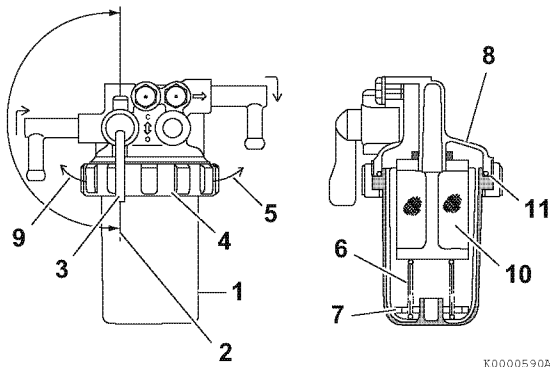

Figure 5-4
1. Position an approved container under the fuel filter/water separator (**Figure 5-4, (1)**) to collect the contaminants.
2. Close (**Figure 5-4, (2)**) the fuel cock (**Figure 5-4, (3)**).
3. Turn the retaining ring (**Figure 5-4, (4)**) to the left (**Figure 5-4, (9)**).
4. Carefully remove the cup (**Figure 5-4, (1)**). Remove the retaining spring (**Figure 5-4, (6)**) and float (**Figure 5-4, (7)**) from the cup. Pour the fuel into an approved container and dispose properly. Hold the bottom of the cup with a shop towel to prevent the fuel from dripping. Wipe up any spills immediately.
6. Inspect the condition of the mesh filter (**Figure 5-4, (10)**). Clean the mesh filter if necessary.
7. Inspect the condition of the O-ring (**Figure 5-4, (11)**). Replace the O-ring if necessary.
8. Put the float (**Figure 5-4, (7)**) and retaining spring (**Figure 5-4, (6)**) inside the cup.
9. Reinstall the cup to the mounting flange (**Figure 5-4, (8)**) and turn the retaining ring (**Figure 5-4, (4)**) to the right (**Figure 5-4, (5)**). Hand-tighten only.
10. Open the fuel cock (**Figure 5-4, (3)**).